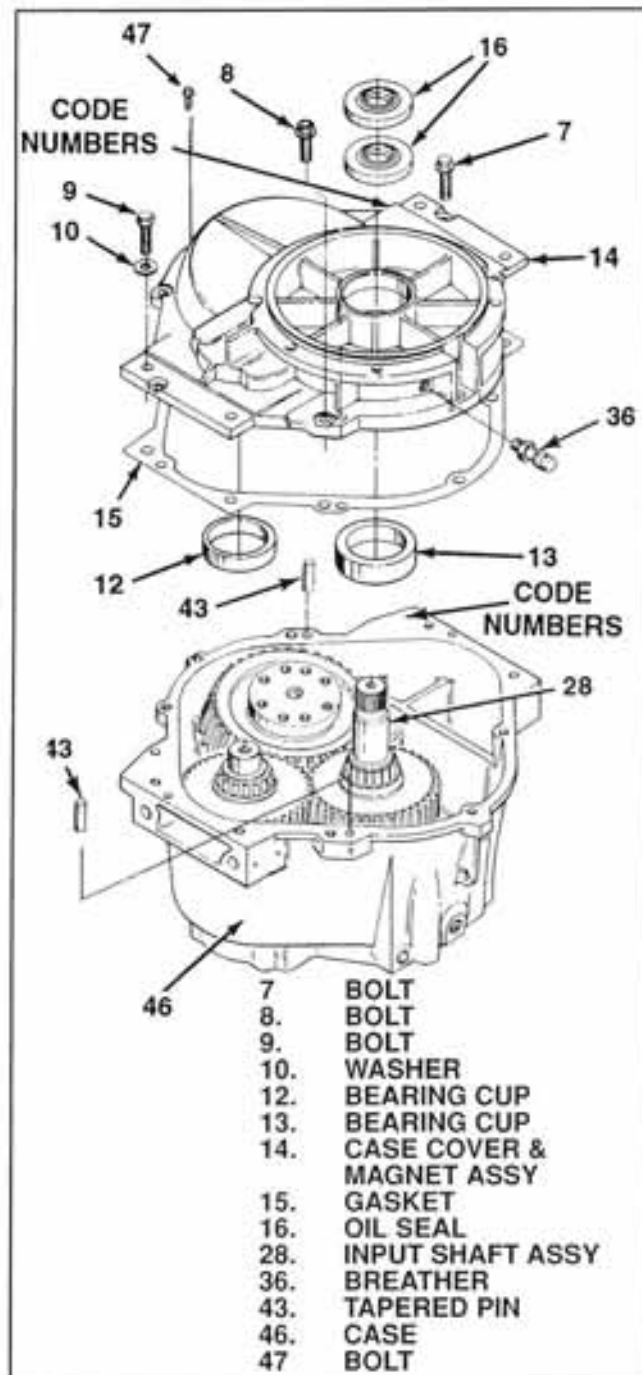
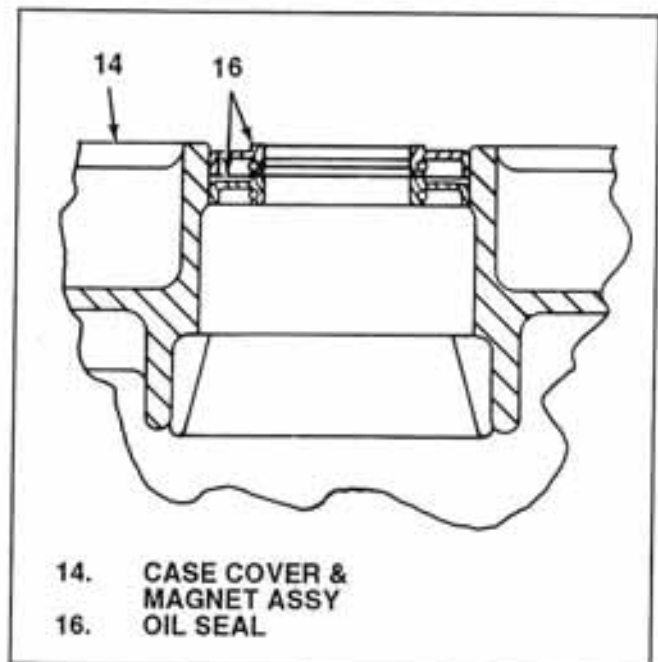
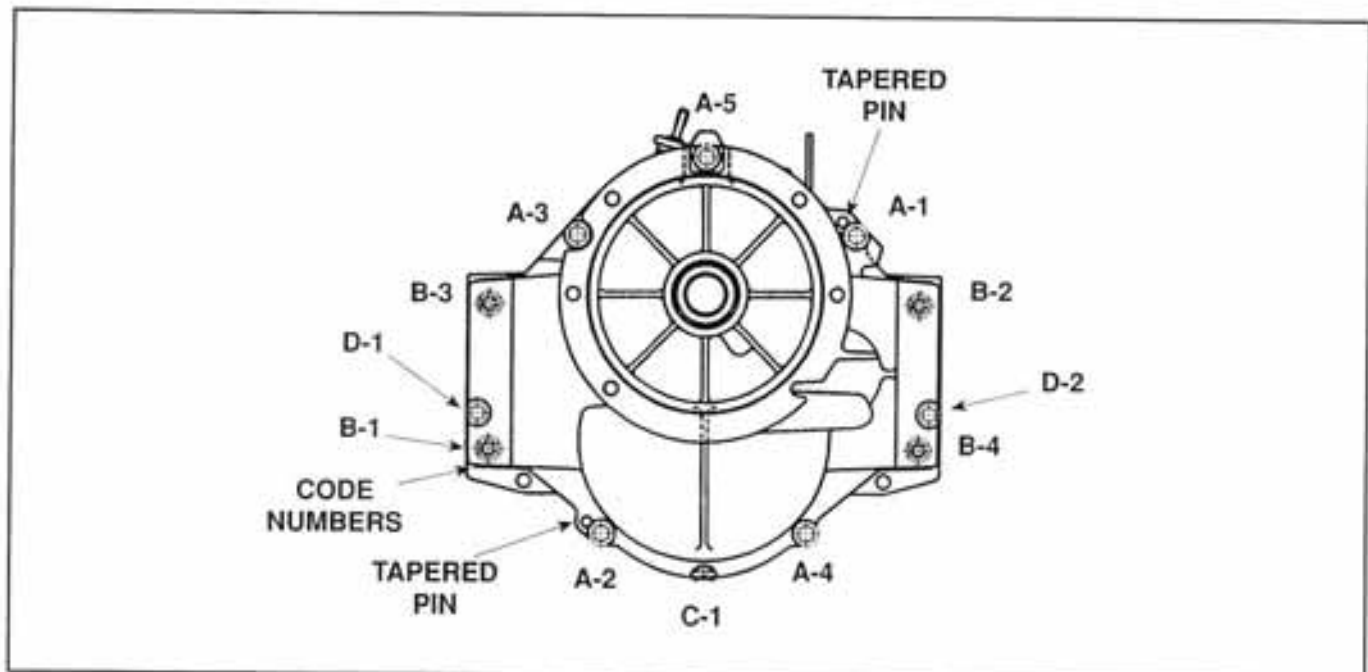
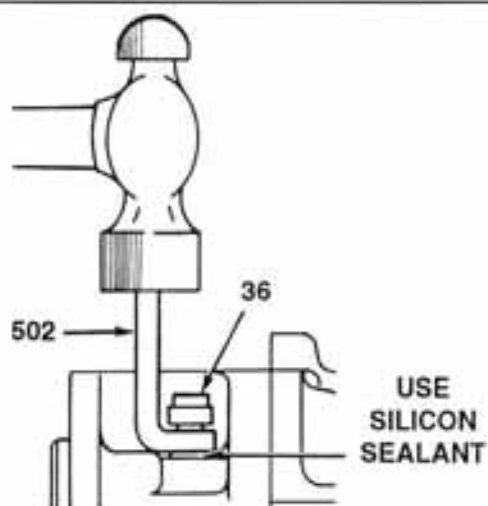

Figure 5-18. Case Cover and Bearing Cup Assembly
Figure 5-19. Input Shaft Oil Seals
Figure 5-20. Torque Sequence
Figure 5-25. Breather Installation
5-20. ASSEMBLY AND INSTALLATION OF CASE COVER ASSEMBLY. Assemble as follows (see figure 5-18):
NOTE: Case cover and magnet assembly (14) and case (46) are a matched set as specified in paragraph 4-15. Check the code numbers as shown in figure 5-18 to make sure a matched set is being assembled. A mismatched case (46) and case cover and magnet assembly (14) may result in severe transmission damage.
1. If removed, press in new bearing cups (12 and/or 13) to bottom in case cover and magnet assembly (14).
2. Position two new oil seals (16) as shown in figure 5-19 and press into case cover and magnet assembly (14) so that outside face of outside oil seal is flush with outside face of cover. Fill cavity between oil seals with grease.
3. Position transmission assembly with pump end down and position gasket (15) on face of case (46). A light coating of petroleum jelly may be used to hold gasket in place.
4. Position case cover and magnet assembly (14) on gasket (15) on case (46). Align holes and install tapered pins (43) using finger pressure only at this time.
6. Lightly tap tapered pins (43) to position cover and hand tighten bolts to snug gasket (15).
7. Firmly tap tapered pins (43) to seat them.
8. Tighten bolts in sequence shown in figure 5-20 diagram to the following final torque:
A. bolt (8) 24-34 lb-ft (33-46 Nm)
B. bolt (9) 40-50 lb-ft (54-68 Nm)
6. If breather (36, figure 5-18) was replaced install new breather with silicone sealant and seat with seating tool T-5006 as shown in figure 5-25.